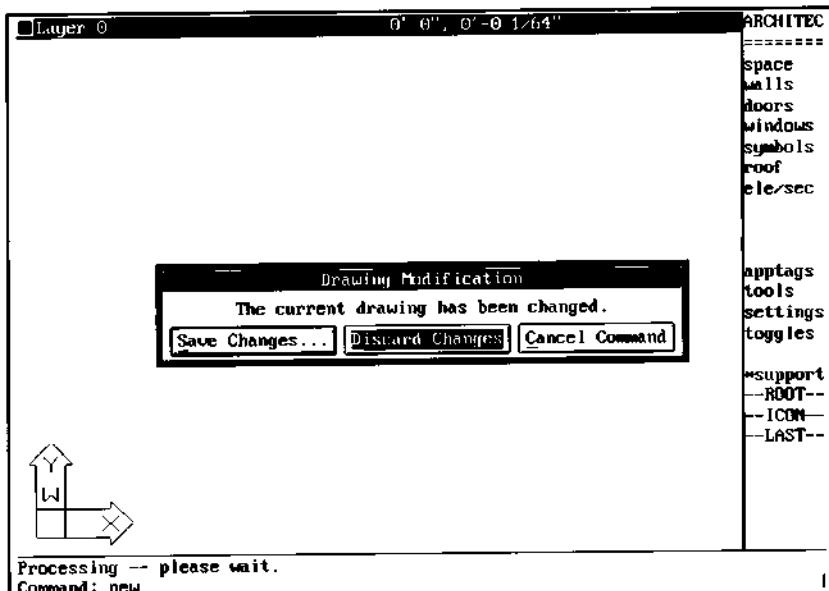
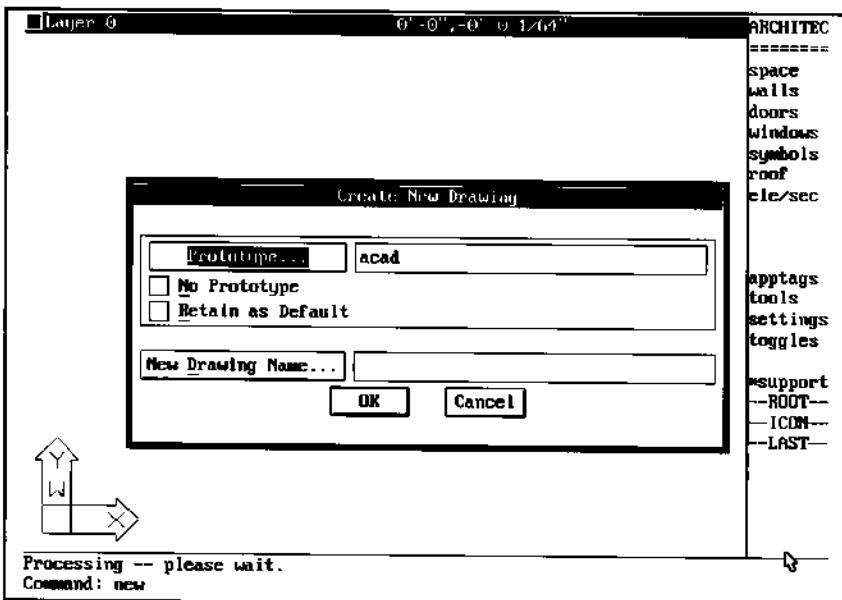

Figure 1.
Figure 2.
4. Pick Discard Changes as shown in Figure 1 to open the Create New Drawing dialog box. Select Prototype... as shown in Figure 2 with your pointing device.